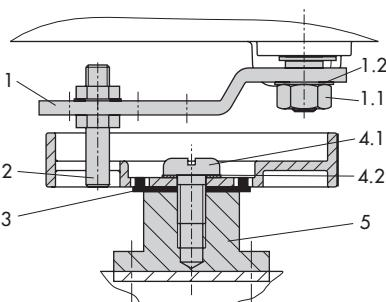
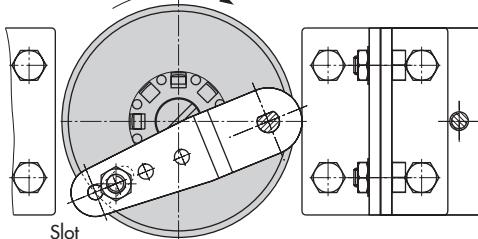

Fig. 20: Mounting the coupling wheel on Type 3278
Fig. 21: Attachment to rotary actuators
- Refer to Fig. 21
Legend for Fig. 20 and Fig. 21